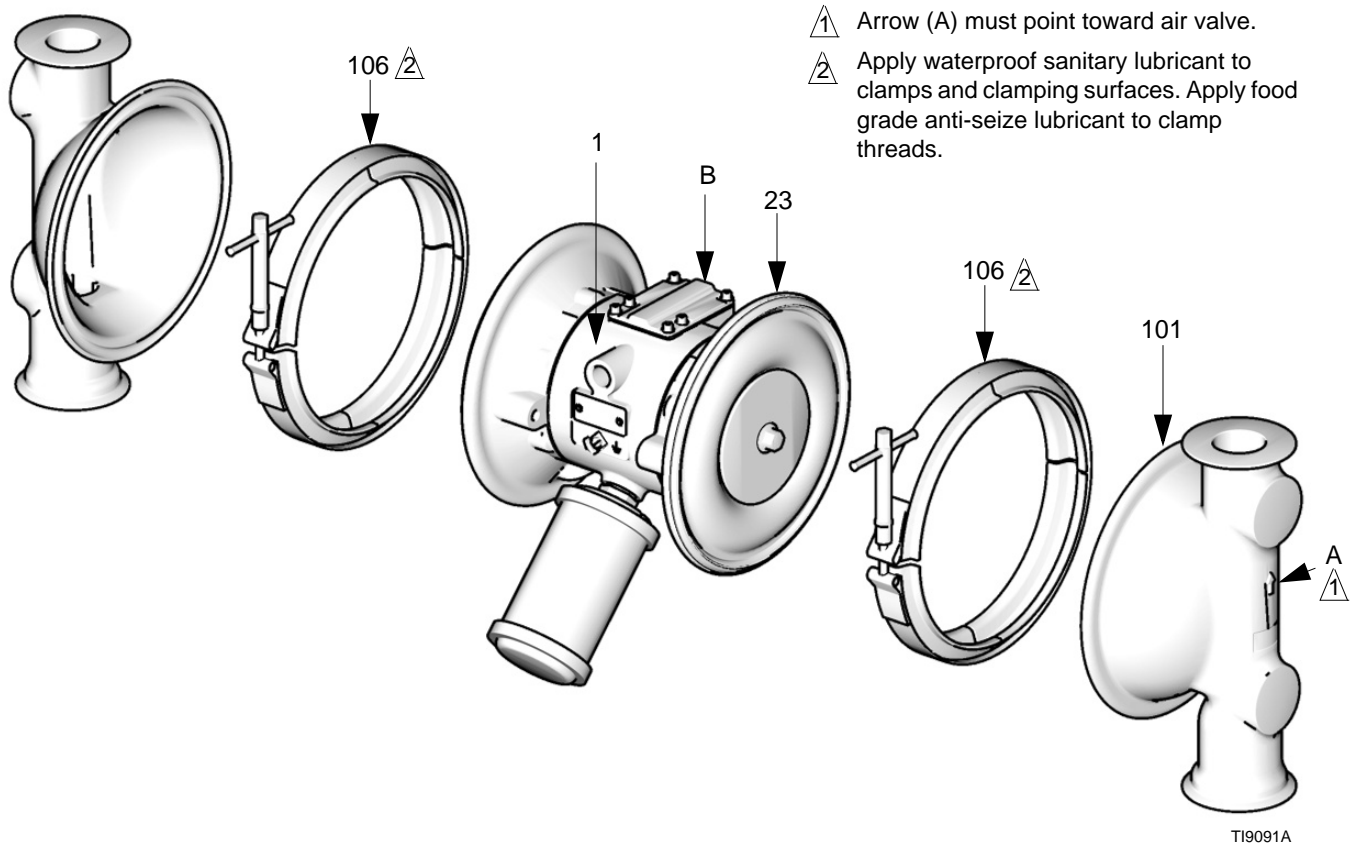

FIG. 10
3. Remove the clamps (106) holding the fluid covers (101) to the air covers (23). Pull the fluid covers (101) off the pump. See FIG. 10.
6. Align the fluid covers (101) and the center housing (1) so the arrows (A) on the covers face the same direction as the air valve (B). Secure covers with the clamps. See FIG. 10.